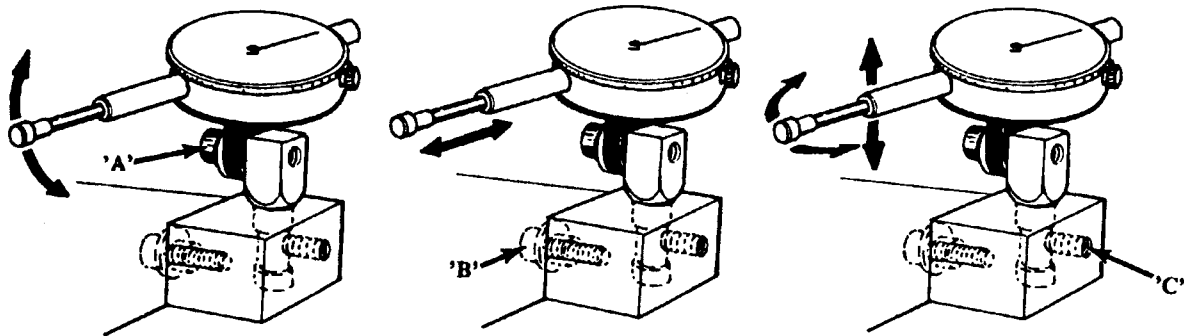

FIG 2-55
1. The gauge assembly is mounted to the setter in such a way as to provide four separate adjustments (See Figure 2-55). Loosening Bolt 'A' allows you to adjust the vertical angle of the indicator. Loosening Bolt 'B' will allow you to slide the gauge assembly forward and back. Loosening Set Screw 'C' will allow you to pivot the indicator horizontally and raise or lower the indicator. Adjustments of the gauge are explained in the following steps.